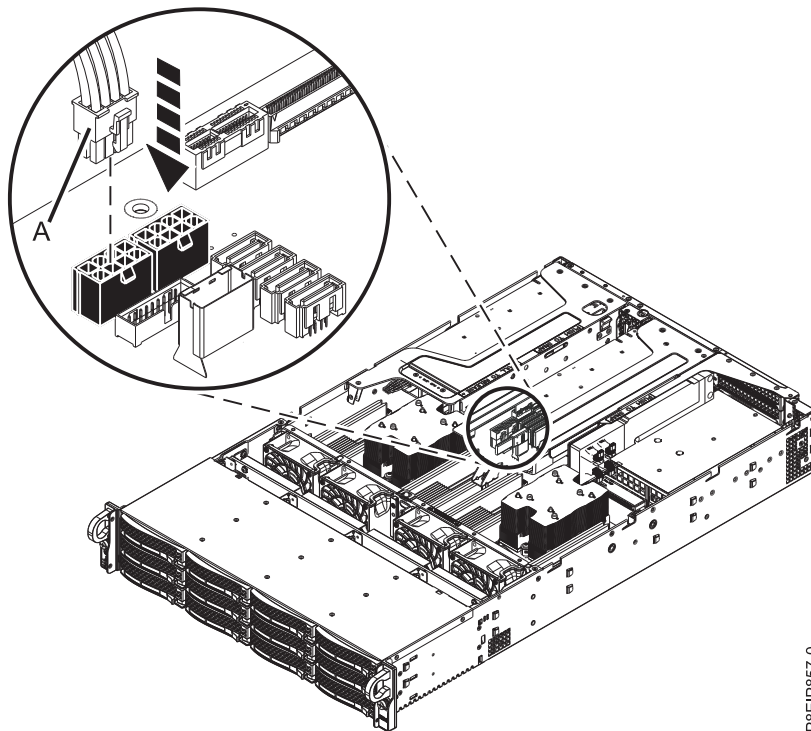

Figure 17. Plugging in the GPU power cable
- g. Plug the GPU power cable (A) into the system backplane as shown in Figure 17. Using your thumb, press the release latch on the connector to remove the cable.